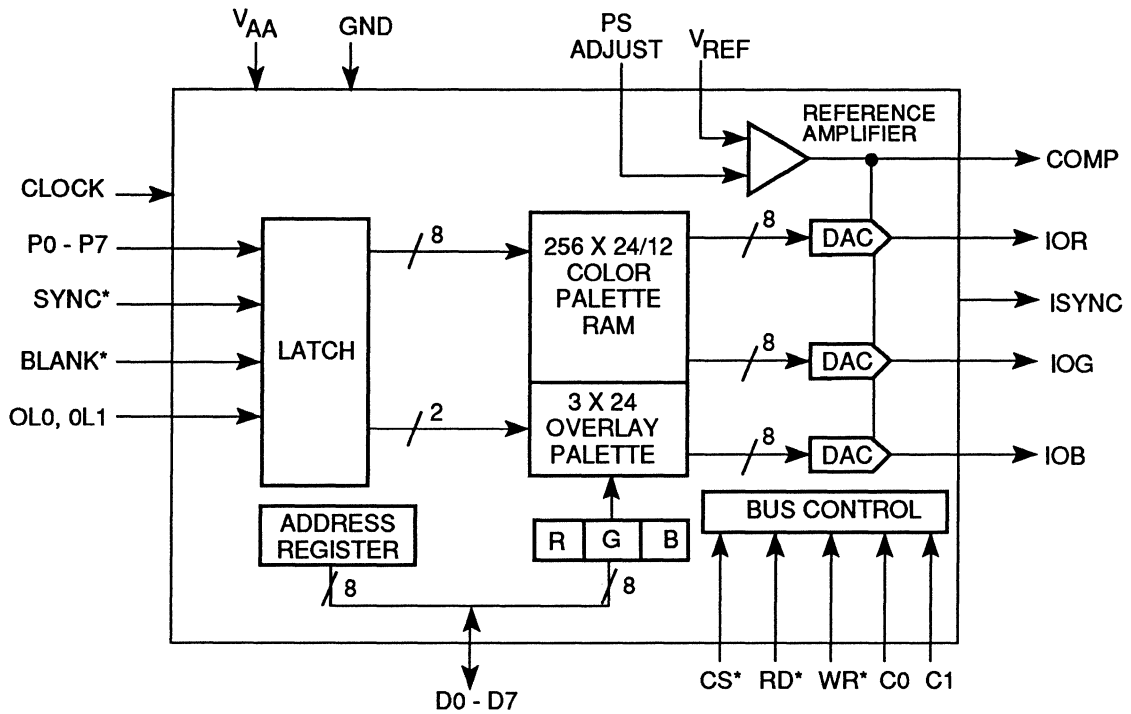

FIGURE 2. FUNCTIONAL BLOCK DIAGRAM
- 3.1.4 FUNCTIONAL BLOCK DIAGRAM:** See Figure 2.